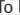

Fig. 3 Rear lid: opening from the outside.
- Opening the rear lid: pull on the release lever and lift it up » **Fig. 3**. The rear lid opens automatically.